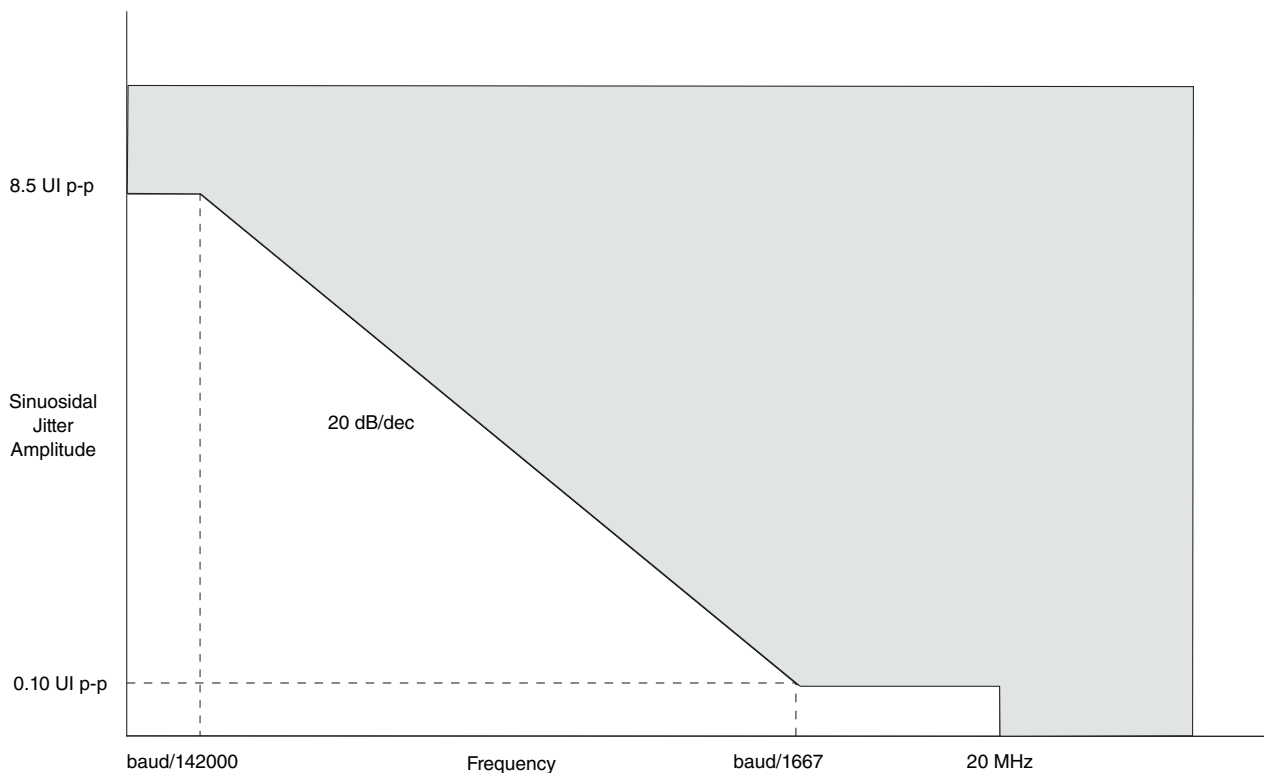

Figure 23. Single-frequency sinusoidal jitter limits
- See Figure 23 for single frequency sinusoidal jitter measurements.